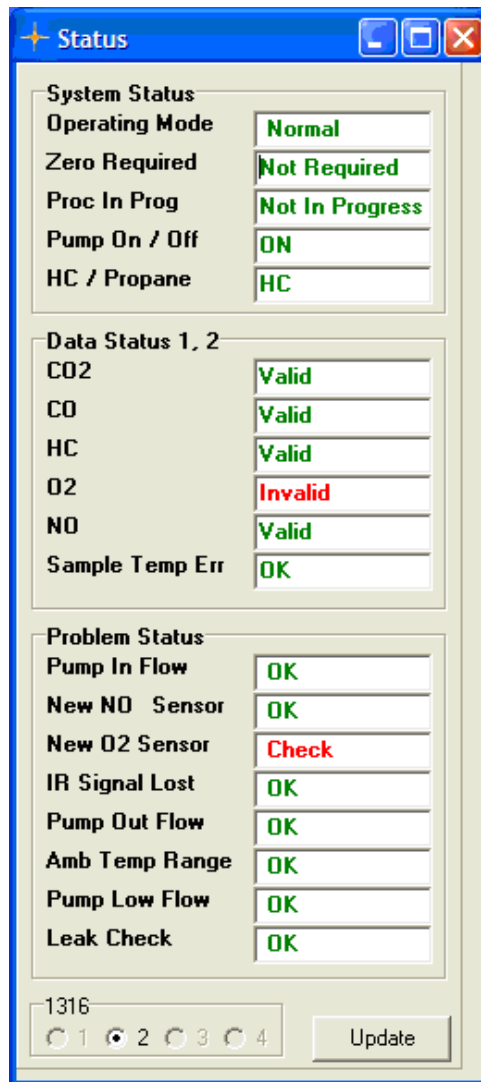

Figure 4.9 . The Status Window displaying " New O₂ Sensor Required".
7. If the O₂ sensor's output is lower than a flash-memory-resident minimum value, the New O₂ Sensor Required warning is shown see figure 4.9.